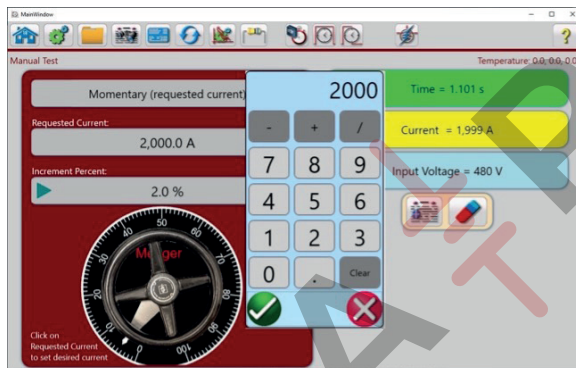

Figure 6: Manual entry of required test current
**Manual control** - Manual control of the SPI system may sometimes be the desired test method. Primary injection testing is simplified by permitting you to simply type in the test current required (Figure 6). No need for hunting around and manually adjusting the test current amplitude. The SPI system will automatically set the current.